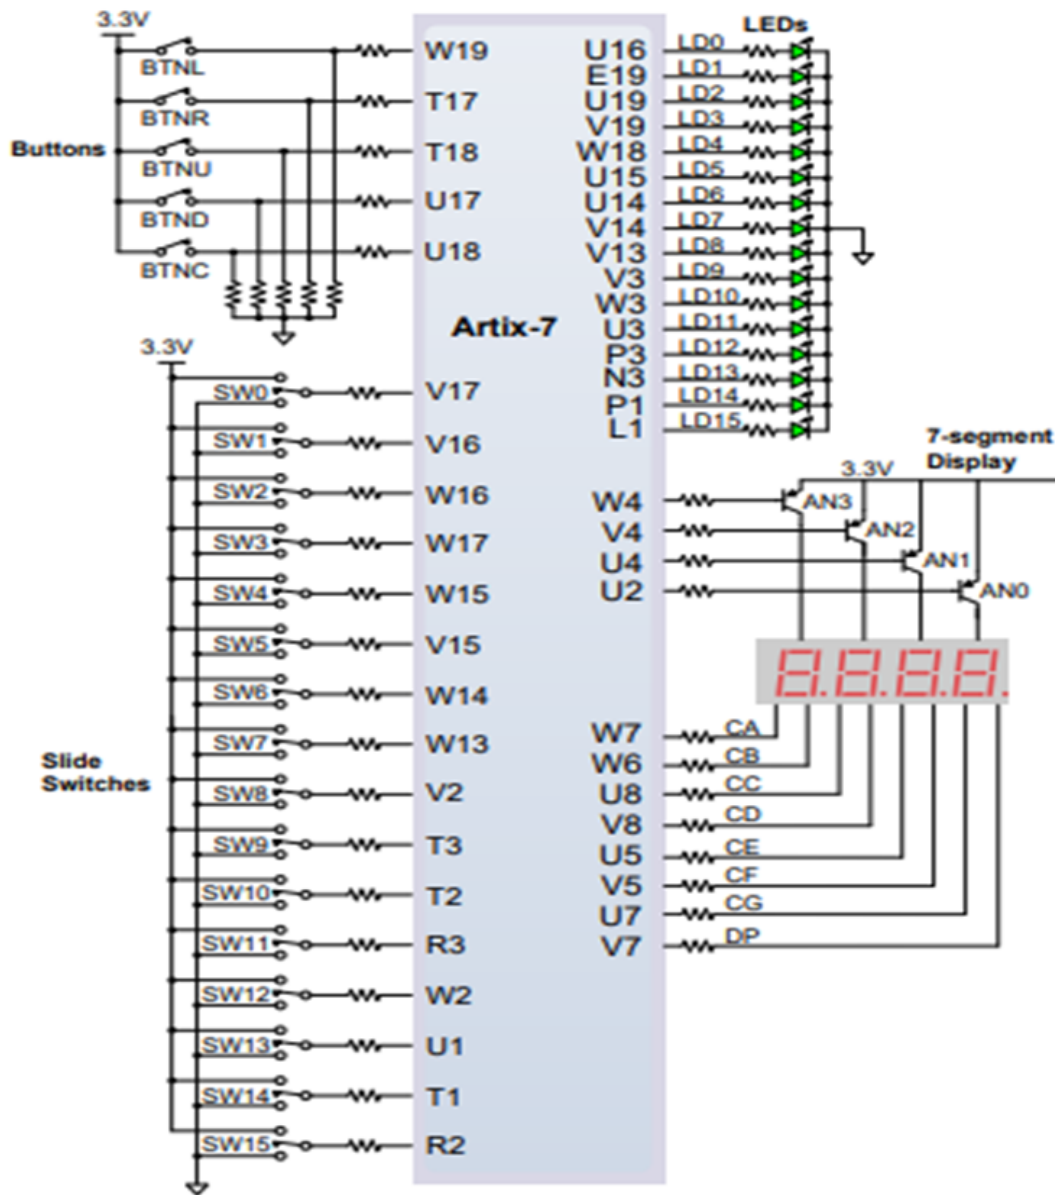
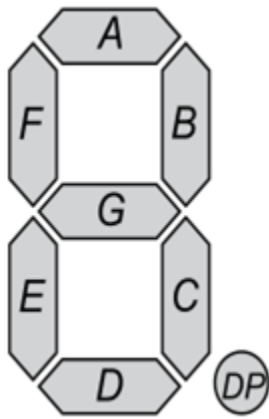

Figure 2
Figure 3
- If reset is 1, all outputs are set to 0, and reset is W14(refer to figure 2).
- Switch 8 is R2 (refer to figure 2). When this switch is 1 (raised) then this means that we are incrementing the tens of the first input number by 1.
- Switch 7 is T1 (refer to figure 2). When this switch is 1 (raised) then this means that we are incrementing the units of the first input number by 1.
- Switch 6 is U1 (refer to figure 2). When this switch is 1 (raised) then this means that we are incrementing the tens of the second input number by 1.
- Switch 5 is W2 (refer to figure 2). When this switch is 1 (raised) then this means that we are incrementing the units of the second input number by 1.
- Switch 4 is R3 (refer to figure 2). When this switch is 1 (raised) then this means that we are adding the two user inputs.
- Switch 3 is T2 (refer to figure 2). When this switch is 1 (raised) then this means that we are subtracting second user input from first user input.As stated the user inputs are 0 to 99 and 0 to 99, thus whatever the input is, the result of a subtraction regardless of the sign is a maximum of two digits. To display the negative sign in case the result is negative, we did a condition where it states that if the result is negative then the leftmost digit on the FPGA is 15 which is 1111 in binary. We then stated in the bcd_cathodes module that when the binary value is 1111 then we only put on G (refer to figure 3) and G represents the minus sign.
- Switch 2 is T3 (refer to figure 2). When this switch is 1 (raised) then this means that we are multiplying the two user inputs.
- Switch 1 is V2 (refer to figure 2). When this switch is 1 (raised) then this means that we are applying division, (first user input)/(second user input).
- Switch 0 is W13 (refer to figure 2). When this switch is 1 (raised) then this displays the result after applying the arithmetic operation.